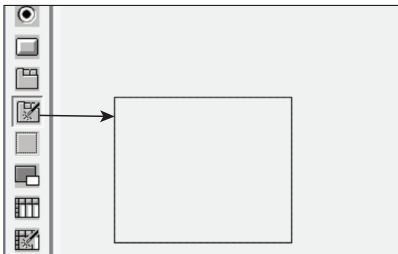

Figure 12.35 Tabstrip Control with Wizard
1. From the element palette, select **TABSTRIP CONTROL WITH WIZARD** and drag it onto the work area where you want to have the tabstrip control (see Figure 12.35).